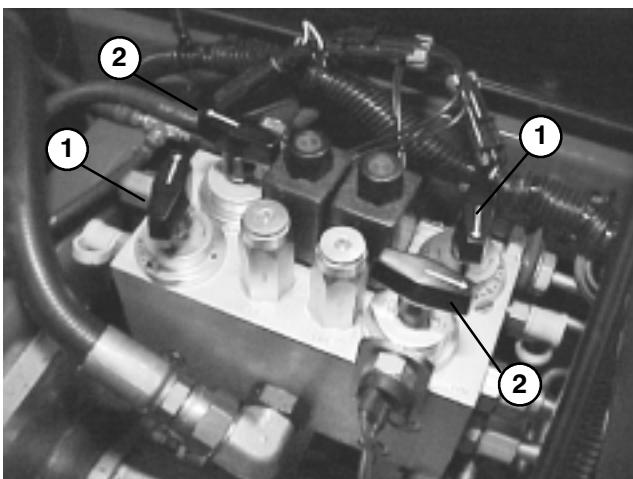

Figure 69
- Locate the reel speed selector knobs and backlap knobs (Fig. 69). Rotate the desired backlap knob(s) to the backlap position and the desired reel speed selector knob(s) to position "1."